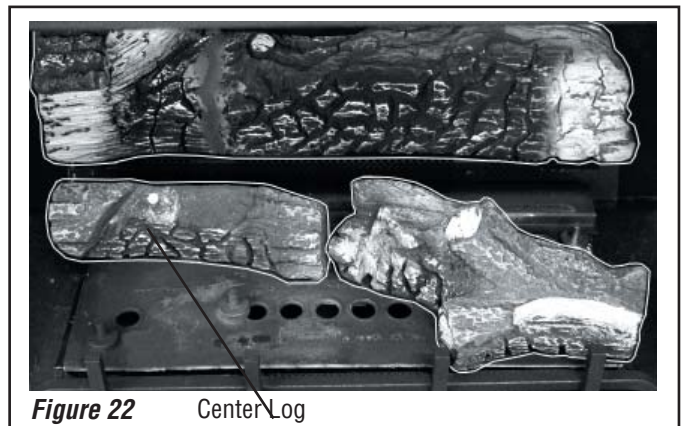

Figure 22 Center Log
3. Place the Center Log onto the 2 corresponding locating pins as shown in Figure 22.